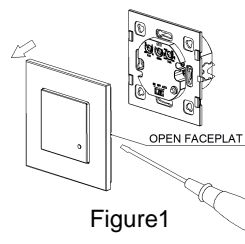

Figure1
- Unclip the faceplate of sensor with a small flat blade screwdriver and adjust the time and LUX adjusters (refer to figure 1)